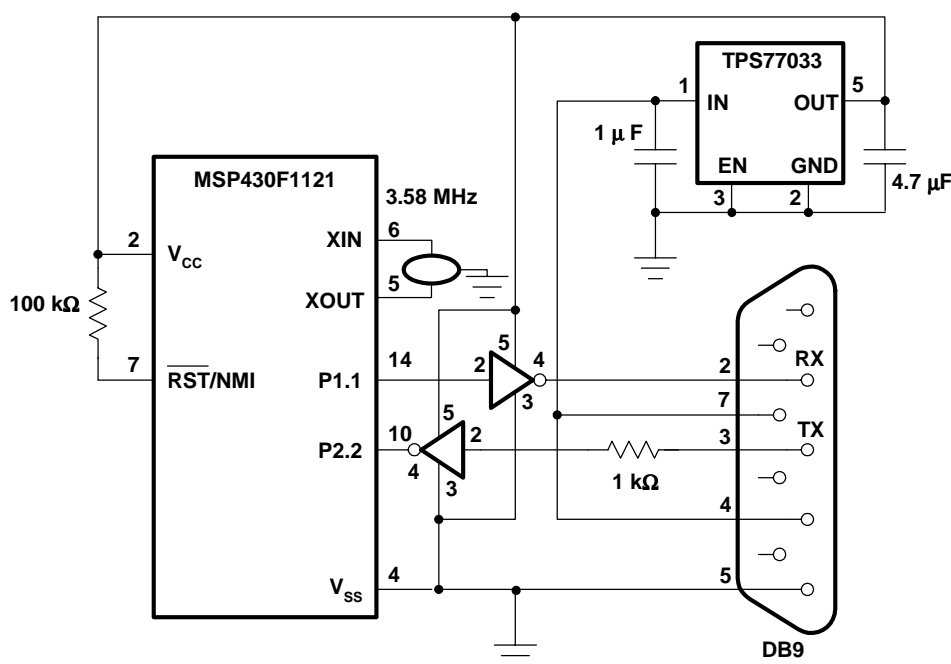

Figure 1. MSP430x11x(1) UART Demonstration Circuit
Asynchronous serial communication can be added to an MSP430x11x(1) application by using hardware features of the integrated timer_A3 module. This report provides several UART function examples demonstrated with an RS232 interface between an MSP430F1121 Flash MCU and a PC serial port (see Figure 1). A description of how to use timer_A3 hardware that provides automatic start-bit detection, baud-rate generation, and data-bit latching is detailed. Hardware features of timer_A3 greatly reduce software and CPU overhead typically associated with microcontroller software UART implementations. Hardware features of timer_A3 also allow the UART to operate as a background function simultaneously with other real-time system tasks.
As shown in Figure 1, an MSP430F1121 communicates serially with another system, in this report a PC using an RS232 interface. Characters are exchanged between the two systems over three lines: receive, transmit, and common ground. The character protocol used is 8N1: 8 data bits, no parity and one stop bit. Users can modify the UART function to support other protocols and baud rates, including parity and a 9-th bit addressing. The UART function described uses a capture-compare register 0 (CCR0), one of the three available with timer_A3. CCR0 is used for start-bit detection, baud-rate generation, and data-bit latching. The other two capture-compare registers are free for other tasks. The selection of CCR0 is arbitrary. Any or all CCRx registers can be used for the UART function. Port pins P1.1 and P2.2 are peripheral-option selections associated with timer_A3 CCR0 (on MSP430x11x(1) derivatives). P1.1 is selected for transmit, P2.2 for receive. Peripheral-options are selected for a pin using the peripheral-option select registers, P1SEL and P2SEL. Because P1.1 is used as an output, this pin must be configured as an output using the port-1 direction register (P1DIR). P2.2 is required to operate as an input. This is the default for an MSP430 port pin. Timer_A3 is configured to run in continuous mode, allowing timer resources to be available for other functions simultaneously with the UART. CPU register R4 is used for RXTXData—a buffer that shifts in or out UART data bits. CPU register R5 is used for BitCnt, a bit-tracking register. The selection of R4 and R5 is arbitrary. Any CPU registers or RAM bytes can be used for these functions.
The example circuit in Figure 1 is powered directly by a PC serial port with regulation from a 3.3-V TPS76033 low-dropout voltage regulator. For demonstration purposes, the serial port interface is implemented using two TI SN74AHC1G04 inverters. If a fully-compliant RS232 interface is required, integrated circuits such as TI's low-power 3-V MAX2331 can be used. Reset is pulled high, and a 3.58-MHz ceramic resonator is used for clock generation.
The included example 11x1_uart1.s43 uses the circuit in Figure 1 and provides a basic echo function. A character is received from the PC and echoed back. During initialization, port pins are configured and all clocks are synchronized to the LFXT1 crystal oscillator. LFXT1 is configured to operate in high-speed (HF) mode. If, as in the example, the MCLK source is an external HF crystal, the crystal must be stable or the oscillator failsafe mode will automatically use the DCOCLK for MCLK. The OSCFAULT can be polled to ensure the crystal is stable before selecting this clock source for MCLK.
1. The example `11x1_uart2.s43` demonstrates how to implement a high baud-rate UART function even from MSP430 ultralow-power modes that use only a single 32 768 watch crystal. The MSP430's independent on-chip high-speed digitally-controlled oscillator (DCO) can be used for baud-rate generation. The DCO is a 100-kHz to 5-MHz and faster, digitally-tunable RC-type oscillator that starts and is stable in less than 6 μ s. With a fast DCO start, high baud rates are possible even from ultralow-power modes that require the DCO off—the falling edge of a start-bit is used as an interrupt which enables the DCO in less than 6 μ s. Example `11x1_uart2.s43` provides a solution for a 9600-baud UART using the DCO for baud-rate generation. A 32 768 watch crystal is used for XTAL, replacing the 3.58-MHz resonator in Figure 1. The DCO is set to 1 228 800 Hz and used to drive the subsystem clock (SMCLK) which is configured as the source for timer_A3. The DCO is tuned to a high-speed value using a software frequency-locked loop (FLL). The software FLL integrates faster SMCLK (DCO clocks) over periods of the slower ACLK (derivatives of the 32 768-Hz crystal). The DCO clock is adjusted until the target frequency is reached (1 228 800 Hz). The DCO clock remains stable at the set frequency as long as V_{CC} and temperature are stable. The software FLL can be called at anytime to retune the DCO. See the current data sheet, *MSP430x11x1 Mixed Signal Microcontroller*, SLAS241, ref [1] for DCO specifications. In this example the Mainloop waits in LPM3—typically less than 2 μ A—with the UART function fully ready to receive. The Mainloop echo operation is the same as the previous example. This example uses the `BitCnt` register simply to track the character-receiving process as opposed to using auto-increment as in the previous example.
In some cases a 32 768-Hz watch crystal is required as the direct clock source for timer_A3. A UART function is still possible, but at slower baud rates to prevent bit-timing errors. Example 11x1_uart3.s43 provides a solution for a 2400-baud UART, assuming that a 32 768-Hz watch crystal is used for XTAL (replacing the 3.58-MHz resonator in Figure 1). No software FLL is required to set the DCO, because the crystal generates the UART bit timing. When in active mode, the CPU is configured to execute code at the faster DCO clock rate—the CPU does not execute code at 32 768 Hz. Also in this example, RAM locations are used for RXTXData and BitCnt, as opposed to the CPU registers used in the other examples.